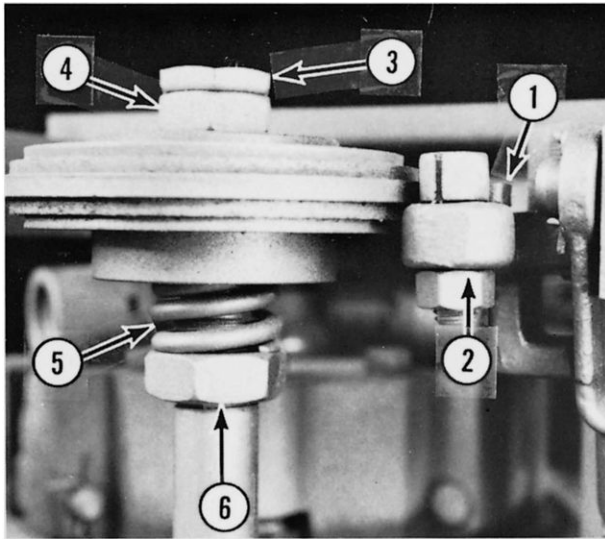

Fig 7-10
A. Checking The Engaging Plate Position. The engaging plate (1, Fig. 7-10) should contact the lower portion of the brake arm stop (2, Fig. 7-10) with the clutch disengaged.
(1) Remove the palnut (3, Fig. 7-10).
(2) Adjust the position of the engaging plate by tightening or loosening the upper jam nut (4, Fig. 7-10).
(3) When adjustment is complete, reinstall the palnut.
The braking action is controlled by the compression of the spring (5, Fig. 7-10) located under the brake pressure plate and the lower hex nut.
- (1) Tighten or loosen the lower hex nut (6, Fig. 7-10) to attain the proper braking action.